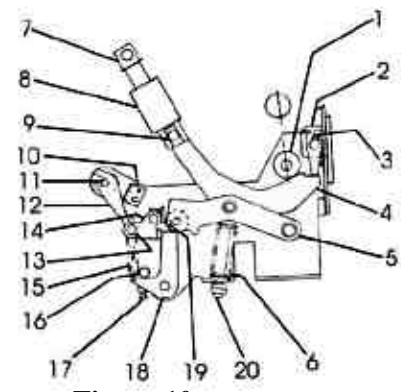

Figure 10
The breaker is opened by a displacement of the latch (12), Figure 10, in relation To roller (13), Figure 10. This permits the secondary latch (18) to rotate forward Due to its bias in this direction and the force transmitted from the opening springs. This displacement of the latch takes place whenever the trip shaft (11) is rotated in the direction that will carry the latch off the roller. Either the striker arm of the shunt trip armature or the manual trip push rod can affect this by acting against trip paddles attached to the trip shaft. Gravity and action of opening springs open the breaker contacts.